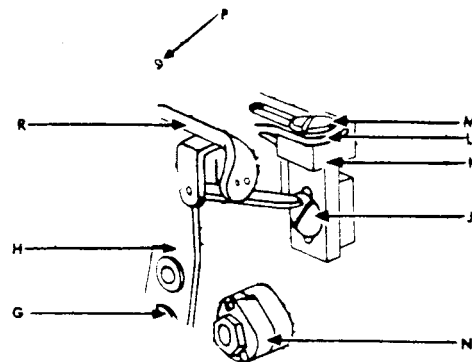

Fig. 24.
When threading, turn machine pulley to raise needle to its highest point. Thread needle thread bridge bracket K Fig. 24, Page 14, making sure that thread is under the thread (needle) controller "H" (Fig. 24, Page 14).
- (1) Replace the needle holder washer on needle carrier "N" (Fig. 24, Page 14) with needle holder washer and thread (needle) controller "S" (Fig. 23). Thread as illustrated in Fig. 23.
- (2) Slacken thread eyelet screw "P" (Fig. 24, Page 14) and move thread eyelet "R" (Fig. 24, Page 14) forward for slacker stitch and backwards for tighter needle thread stitch. Tighten screw "P" (Fig. 24).
- (1) Loosen thread eyelet screw "P" (Fig. 24, Page 14) and position thread eyelet "R" (Fig. 24) so that needle thread is in contact with needle carrier "N" (Fig. 24) at its lowest point.
- (2) Adjust needle thread tension as loosely as possible for satisfactory stitching.
- (1) Remove machine frame oil guard (top). Loosen thread (needle) controller screw "G" (Fig.24) and move thread (needle) controller "H" (Fig.24) until screw is in centre of slot. Tighten screw "G" securely. Replace machine frame oil Guard (top).
- (2) Loosen needle thread bridge bracket screw "J" (Fig.24) and move bracket "K" (Fig.24) until screw is near top end of slot and in line with thread tube. Tighten screw "J".
- (3) Loosen thread eyelet bridge screw "M" (Fig.24) and position thread eyelet bridge "L" (Fig.24) so that needle thread holes are in line with thread tube.
- (4) For tighter needle stitch, raise needle thread bridge bracket "K" (Fig.24) as required. Additional adjustment is provided by moving the thread eyelet bridge "L" (Fig. 24) forward. The two needle threads and the looper thread should tighten at the bottom of the needle stroke in order to set a balanced stitch.
- (1) Remove machine frame oil guard (top). Loosen thread (needle) controller screw "G" (Fig.24) and move thread (needle) controller "H" (Fig.24) forward until screw is near front end of slot. Retighten screw "G" and replace machine frame oil guard (top).